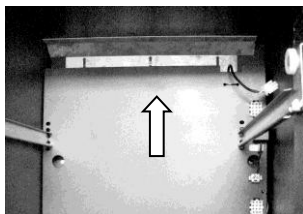

Figure 12: Turning Vane
7. Remove one of two existing Turning Vanes (see Fig.12) located in center opening and move second turning vane to top